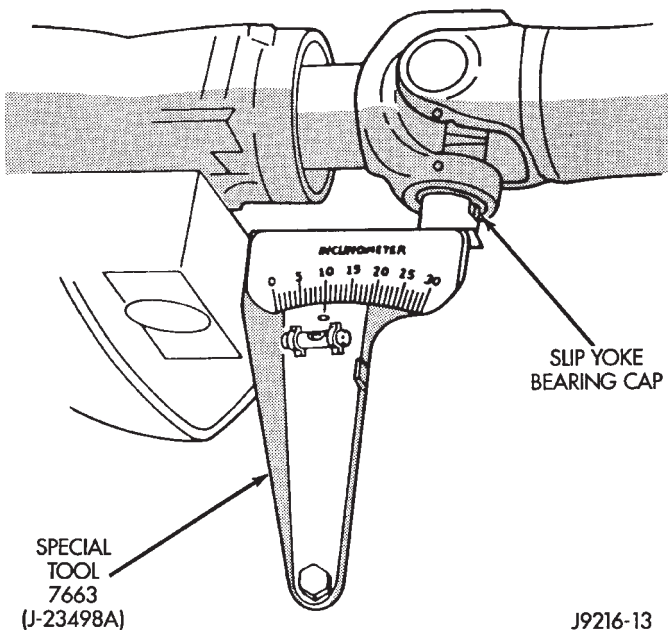

Fig. 7 Front (Output) Angle Measurement (A)
(2) Place Inclinometer on yoke bearing cap (A) parallel to the shaft (Fig. 7). Center bubble in sight glass and record measurement.